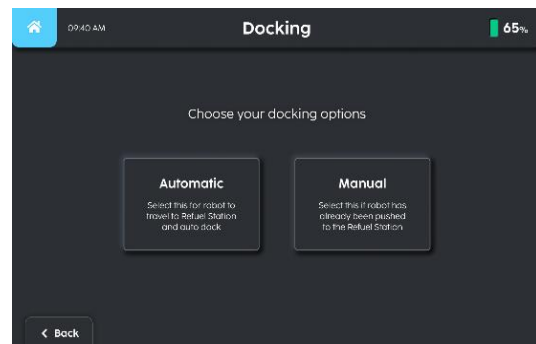

FIGURE 3-16
3. Select the means of docking robot via Automatic or Manual Mode (Fig. 3-16).
3. Select the means of docking robot as 'Manual Mode' (Fig. 3-16).